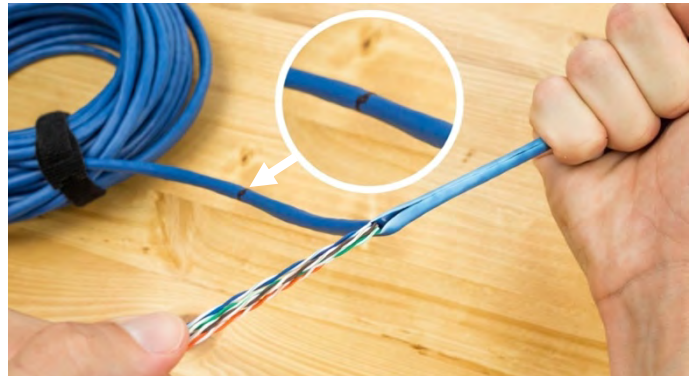

Figure 9
- ❑ Firmly grasp the bundle of colored wires in one hand and pull on the outer jacket with the other hand, tearing the outer jacket back to the 15" mark. (Figure 9)